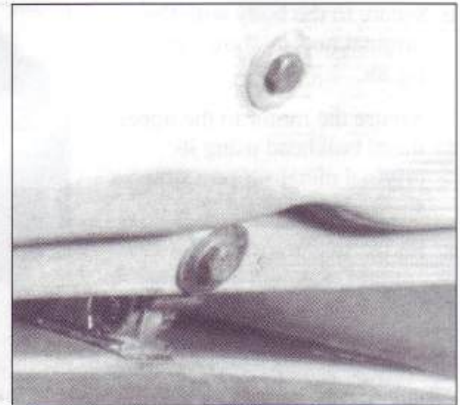

Fig.9b. Recesses on inner moulding.
1. Temporarily fit the boot lid in position, noting the position of the recessed detail on the inner moulding (as can be seen in fig.9b) as the hinges must be fitted at these positions.
Note. Because the moulding is quite thick and strong, it is possible that the studs on the hinge will not be long enough to fit nuts and washers. If this is the case, simply remove the studs and substitute longer bolts and washers from the underside (This was the case in fig.9b). The thread size is $\frac{5}{16}$ " UNF and $\frac{1}{4}$ " UNF.